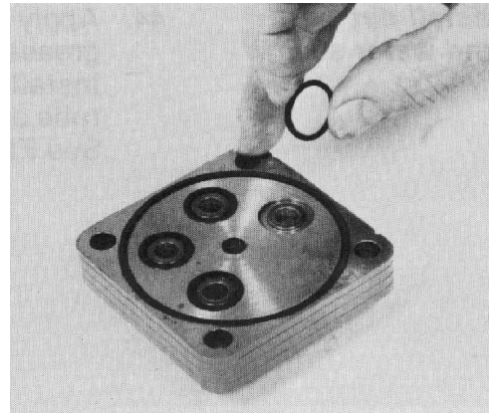

Figure 106
42. Apply clean multi-purpose grease to the four o-rings and seal ring. Put the new o-rings and seal ring into their proper location in the port cover (Fig. 106).